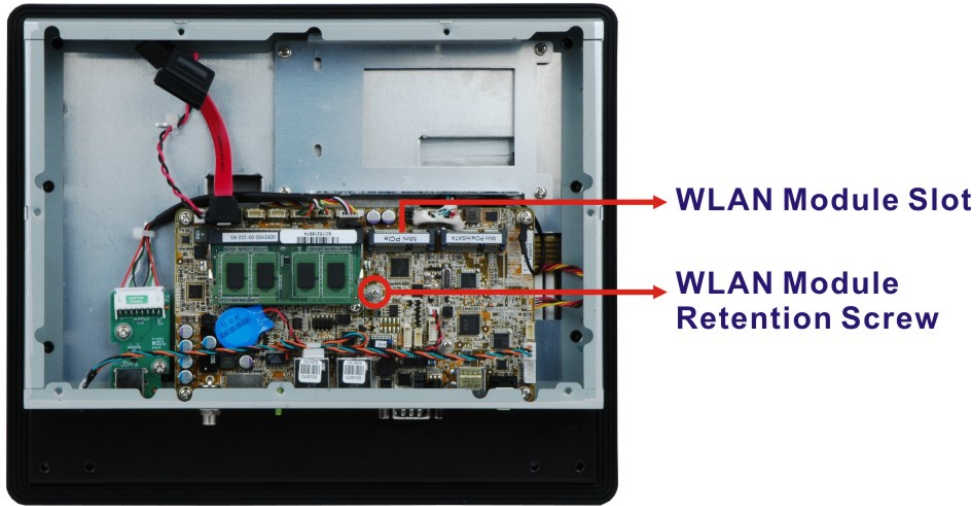

Figure 3-9: PCIe Mini Slot Location
Step 3: Locate the PCIe Mini slot (**Figure 3-9**).